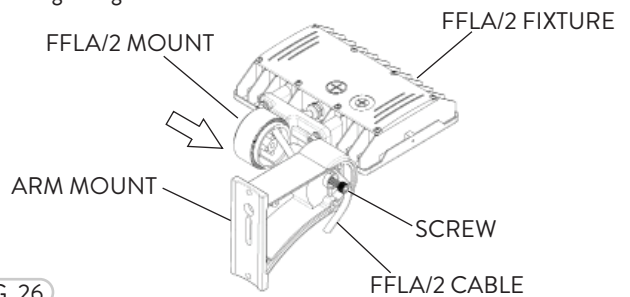

FIG. 26
- 6 Run the FFLA/2 Cable through the inside the Arm Mount. Align the hole and teeth from the Arm Mount with the FFLA/2 Mount and use the Cap Head Screw to fasten them together at the desired fixture tilt angle (Fig. 26).